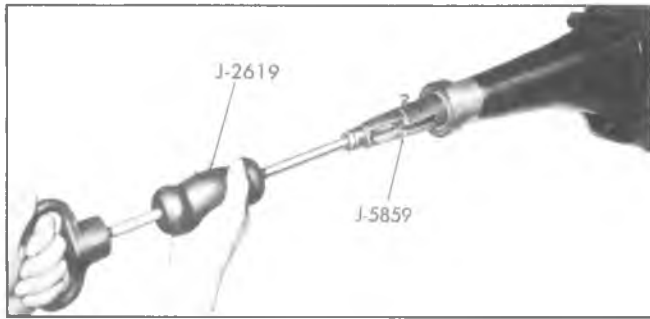

Fig. 12—Removing Mainshaft Rear Oil Seal
- b. Pry seal out of extension housing or remove oil seal using oil seal remover (J-5859) and slide hammer (J-2619) as shown in Figure 12.